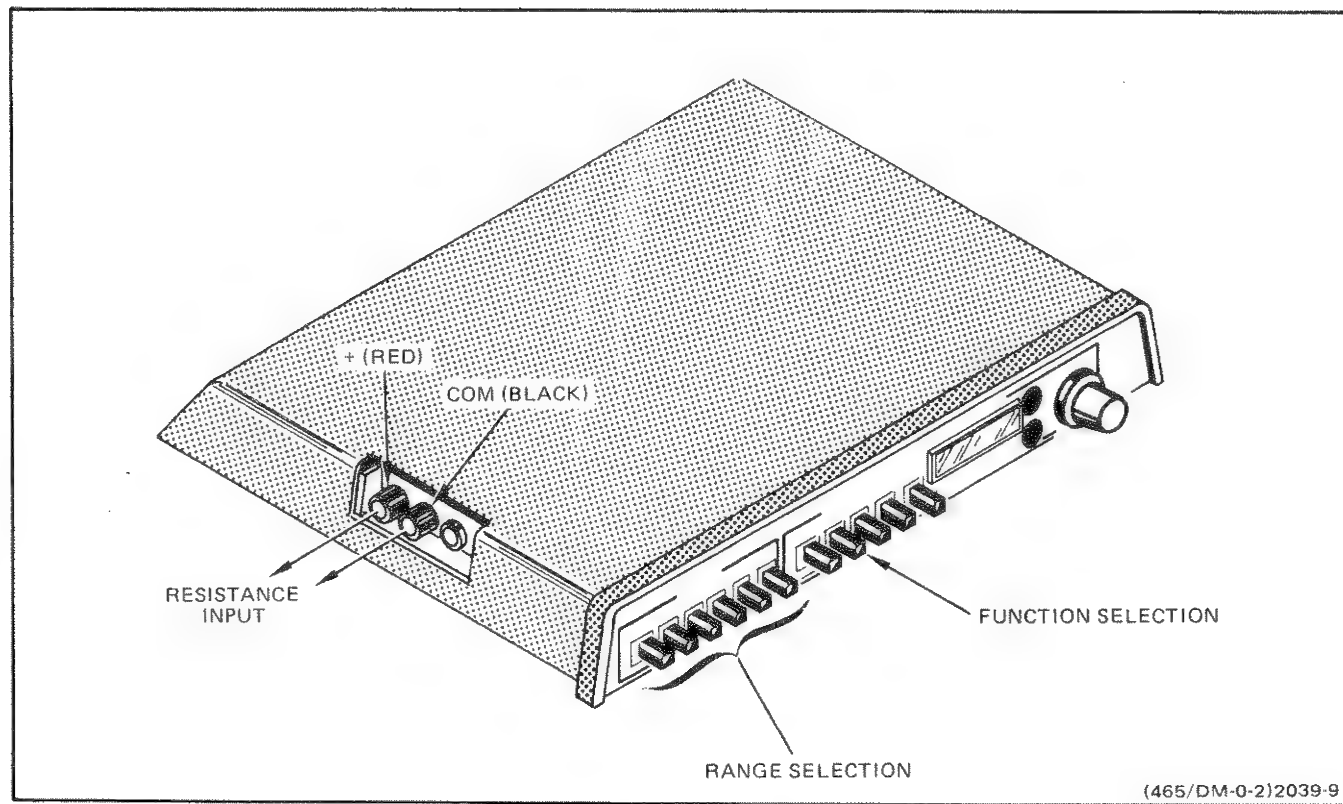

Fig. 8. Resistance.
1. Push in the OHMS FUNCTION button and the 20 M $\Omega$  RANGE button. See Fig. 8.